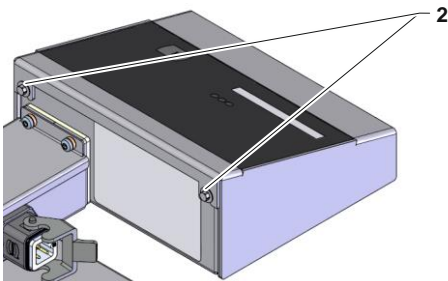

Fig. 2: Rear side of the evaluation unit
- Detach screws (Label 2 → Fig. 2).